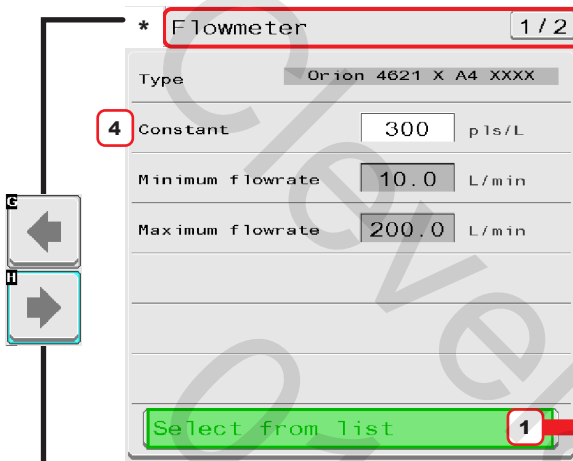

Fig. 39
* Use keys **H** and **G** to move among the pages of **Flowmeter** (Fig. 39) and **Filling flowmeter** (Fig. 41).